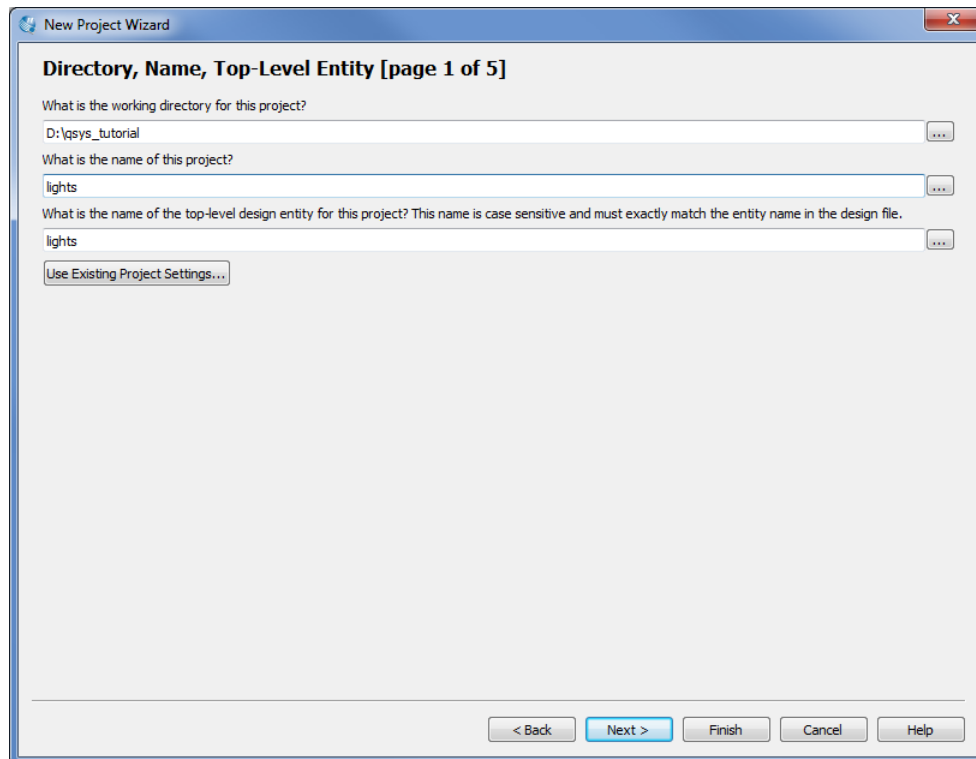

Figure 3. Create a new project.
1. Create a new Quartus II project for your system. As shown in Figure 3, we stored our project in a directory called *qsys_tutorial*, and we assigned the name *lights* to both the project and its top-level design entity. You can choose a different directory or project name. Step through the screen for adding design files to the project; we will add the required files later in the tutorial. In your project, choose the FPGA device used on your DE-series board. A list of FPGA devices on the DE-series boards is given in Table 1.